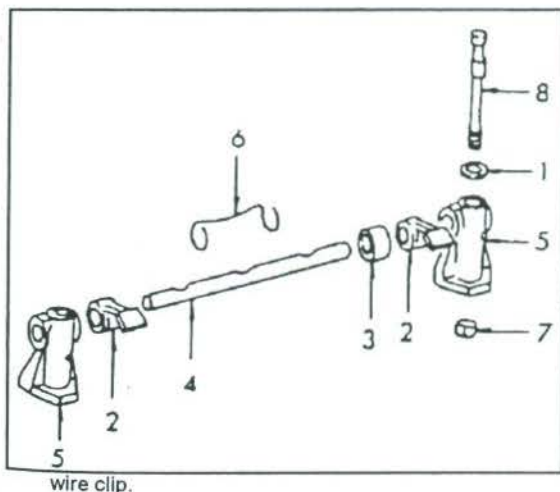

Fig. 9.19 – The component parts of the rocker shaft mounting.
- Remove the wire clips, shown in Fig. 9.18, from the rocker arms. Referring to Fig. 9.19, remove the tension spring (5), the pedestal (3) and the rocker arms from the rocker arm shaft (6). Generously oil the new parts and refit in reverse order to the rocker arm shaft.